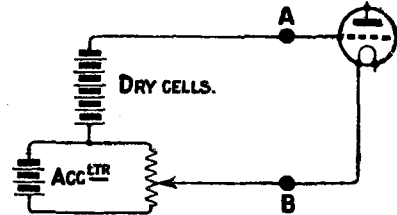

Fig. 4.—Use of accumulator and dry cells for grid bias.
1. Do not use small-size batteries of the flash-lamp type across the potentiometer to enable you to obtain grid voltage changes. The resistance of such a potentiometer is relatively low and will draw from the grid battery too large a current for small cells. A far better plan is to use either large dry cells of the electric bell variety, or preferably an accumulator in series with small dry cells as shown in Fig. 4. A progressive six-volt variation of grid voltage can be obtained by moving the slider from one end of the potentiometer to the other, while steps of 6 volts can be taken by plugging into different dry cell plugs. In this way the dry cells are not required to give any current for the potentiometer, and quite small cells will do, such as the ordinary tapped H.T. units. The accumulator, for its part, will suffice to give the necessary P.D. across the potentiometer winding, and its voltage will remain constant under the load.
As Fig. 4 is shown, a varying negative grid bias can be placed on the grid of the valve. In this way we can plot the negative side of the characteristic curve. To plot the positive we must reverse the connections A and B.